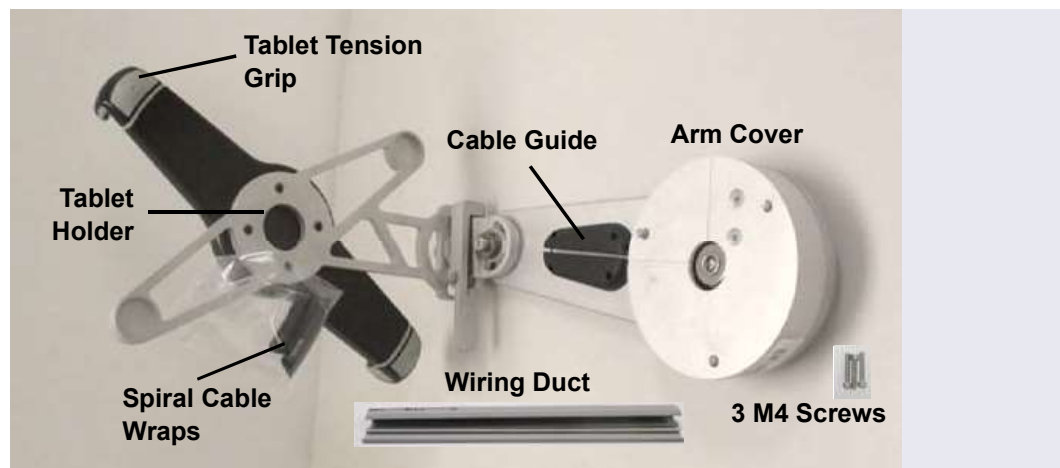

Figure 3-26. Tablet Arm/Holder Kit Contents Unpacked
2. Unpack the Tablet Arm/Holder Kit (P/N 22181-62016). The kit contains all the parts needed to attach the tablet arm to the DC (see Figure 3-26).